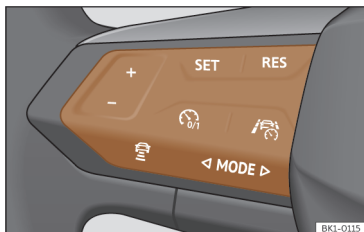

Fig. 129 On the multifunction steering wheel: buttons for operating the ACC.
- Press the button on the multifunction steering wheel >>> **Fig. 129**.
- To start regulation, press the button **SET** >>> **Fig. 129**.
To program the speed, press the + or - >>> **Fig. 129** buttons to the desired speed. The speed is adjusted at intervals of 10 km/h (5 mph).
- Press the button and then the button + or - >>> **Fig. 129**.
- Briefly press the button >>> **Fig. 129** or press the brake pedal.